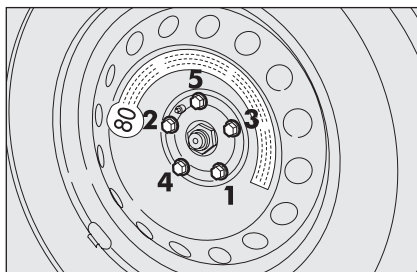

fig. 9
- ☐ Use the wrench provided to fasten the bolts completely in a criss-cross fashion according to the sequence shown in **fig. 9**.
- ☐ lower the car and remove the jack, then, using the wrench provided tighten the bolts according to the sequence previously shown for the space-saver spare wheel **fig. 9**.